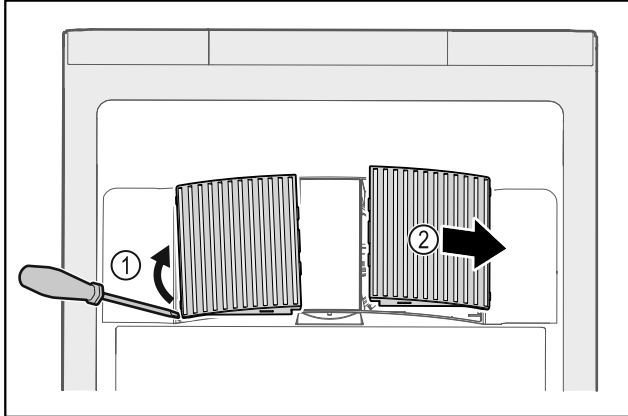

Fig. 140
- ▶ Carefully lever out fan covers from the side Fig. 140 (1) and remove towards the front Fig. 140 (2).